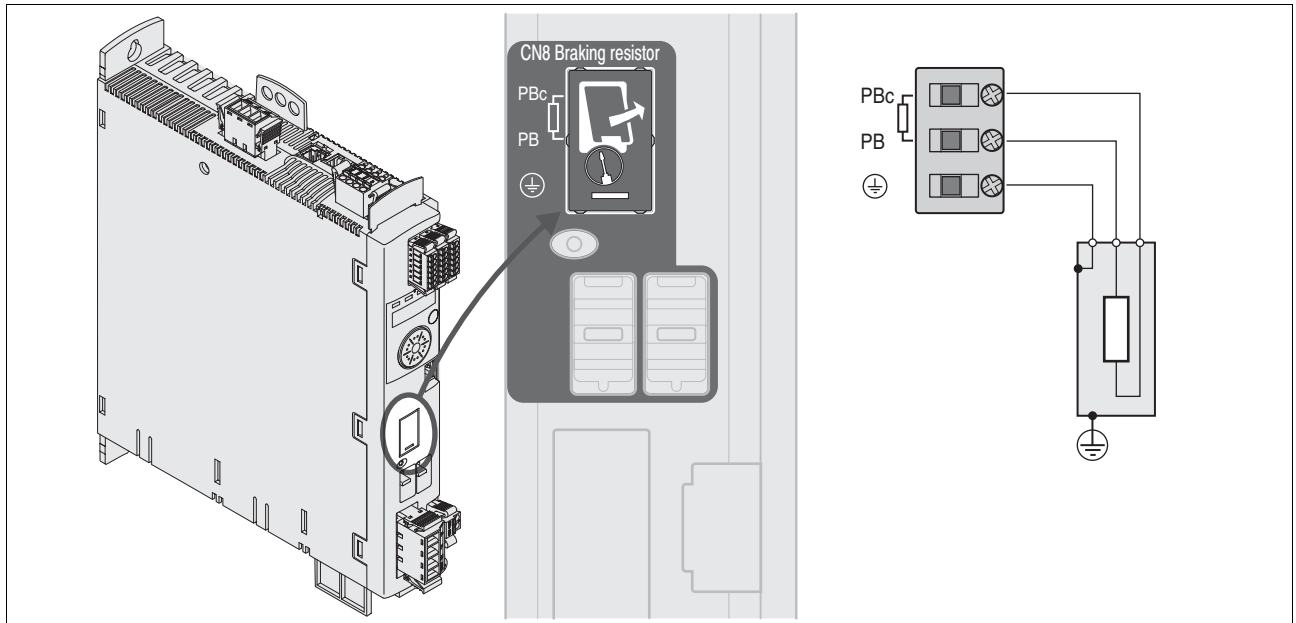

Figure 6.7 Wiring diagram external braking resistor
- ▶ Ground the ground connection (PE) of the braking resistor.
- ▶ Connect the external braking resistor to the device, see Figure 6.7. Note the tightening torque specified for the terminal screws.